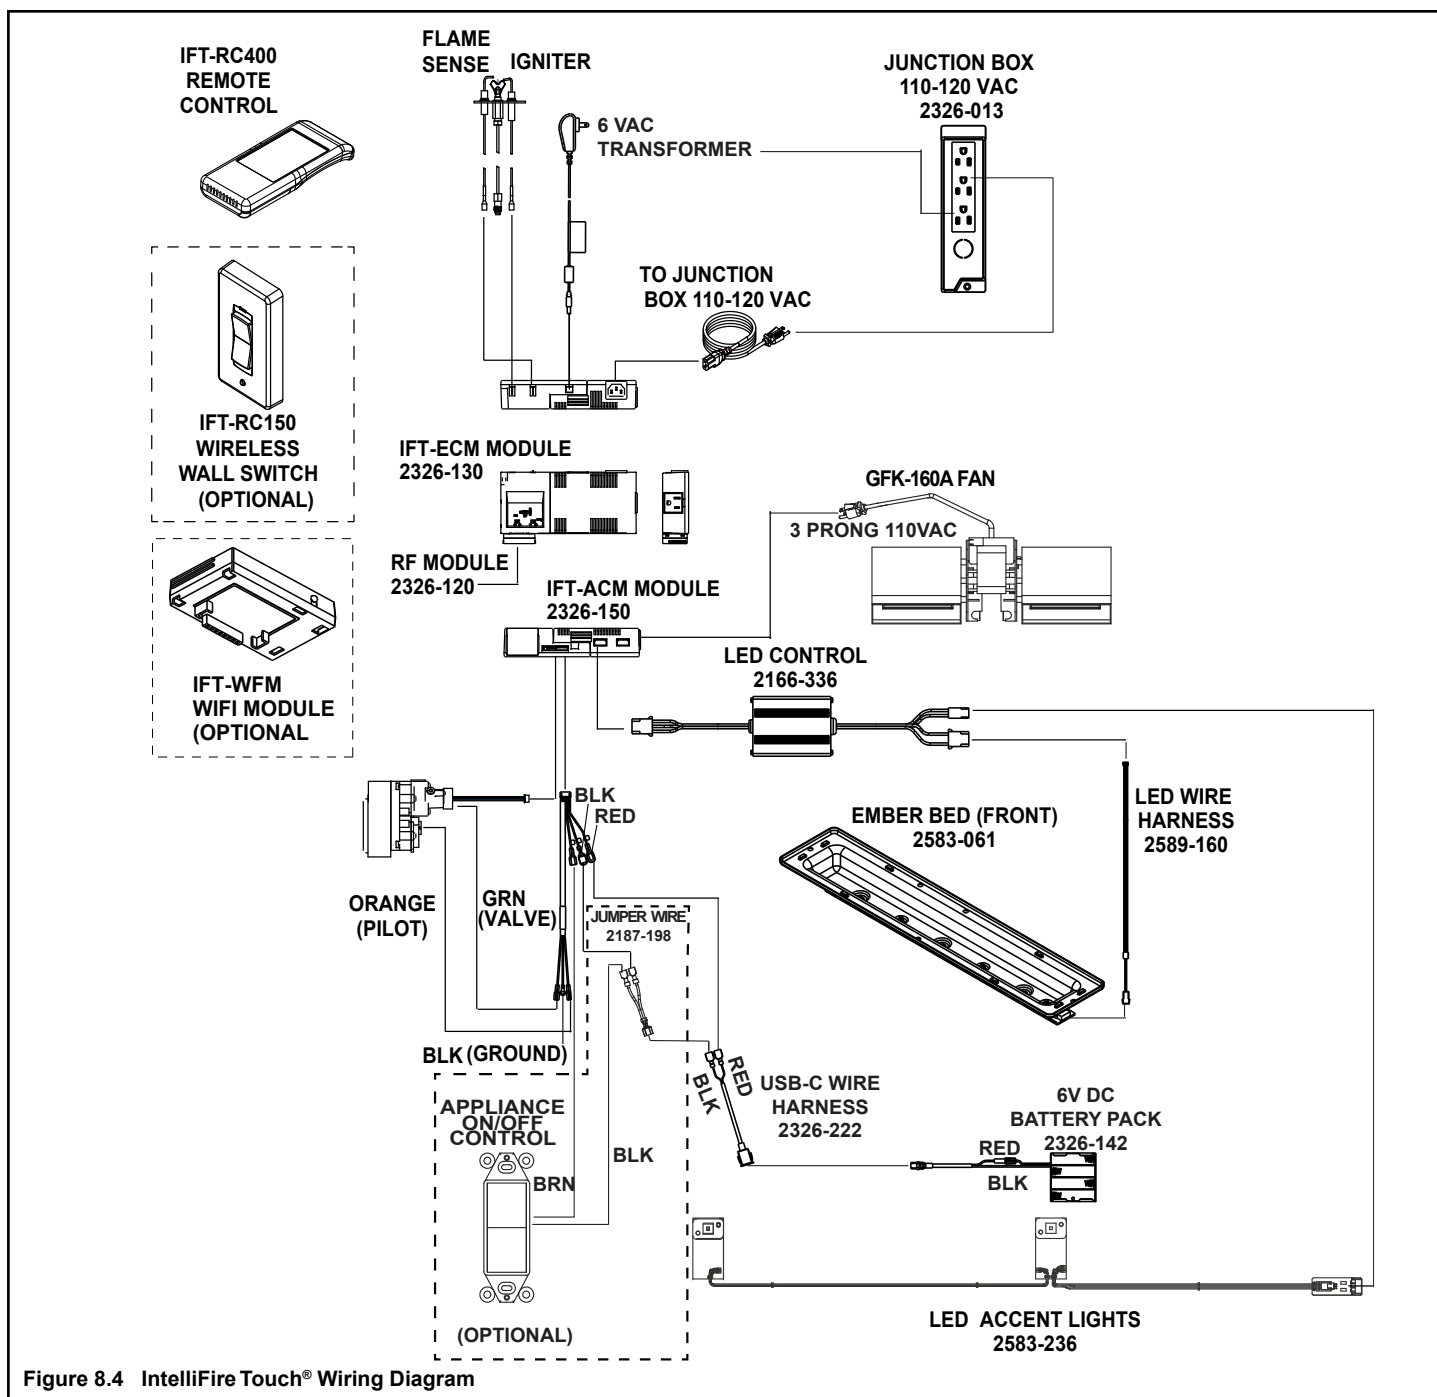

Figure 8.4 IntelliFire Touch® Wiring Diagram
- Refer to Figure 8.4, IntelliFire Touch Wiring Diagram.